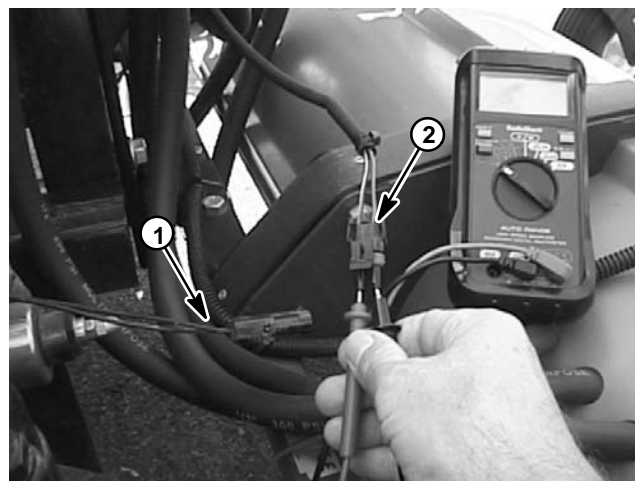

Figure 33
2. Connect one multimeter test lead to one of the harness connector leads and the other meter test lead to the second harness connector lead (Fig. 33). Set multimeter to DC Volts setting.